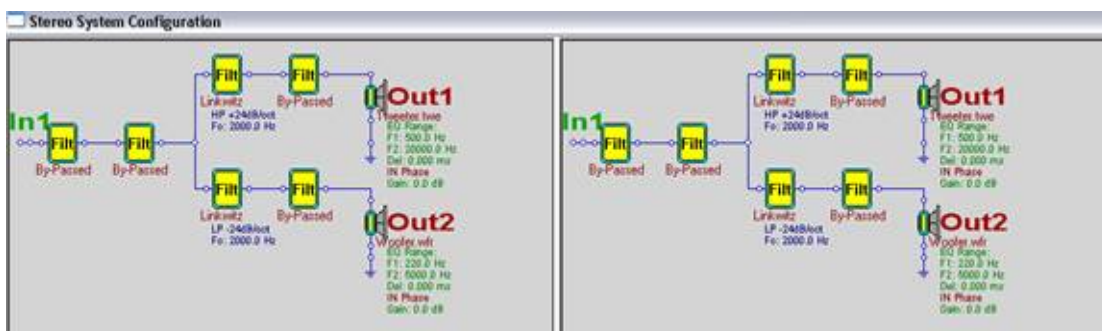

Figure 142 Appearance of CAD screen after copying the Front Left speaker to the Right Front.
- After performing the copy Right Front speaker will have identical settings, including the input and output port assignments and drivers, Figure 142.